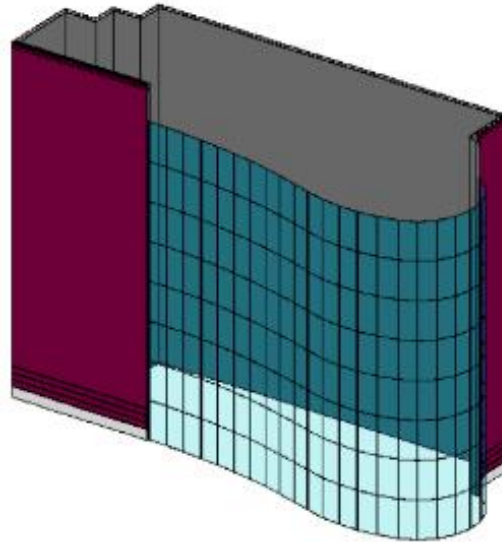

Figure 4–17
- In the View Control Bar, set the *Visual Style* to  (Consistent Colors). The curtain wall does not extend to the top of the parapet, as shown in Figure 4–17.